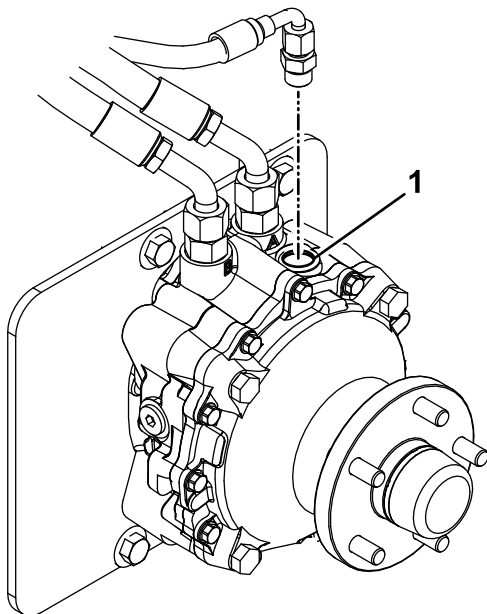

Figure 69
9. Remove the fill-port plug on the top of each wheel motor (Figure 69).